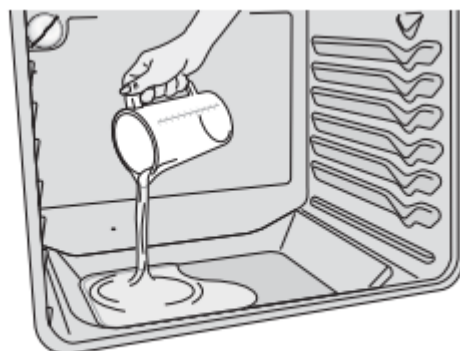

Figure 39: Pour water onto the oven bottom
3. Pour 8 oz (235 ml) of distilled or filtered water onto the oven bottom (See Figure 39).